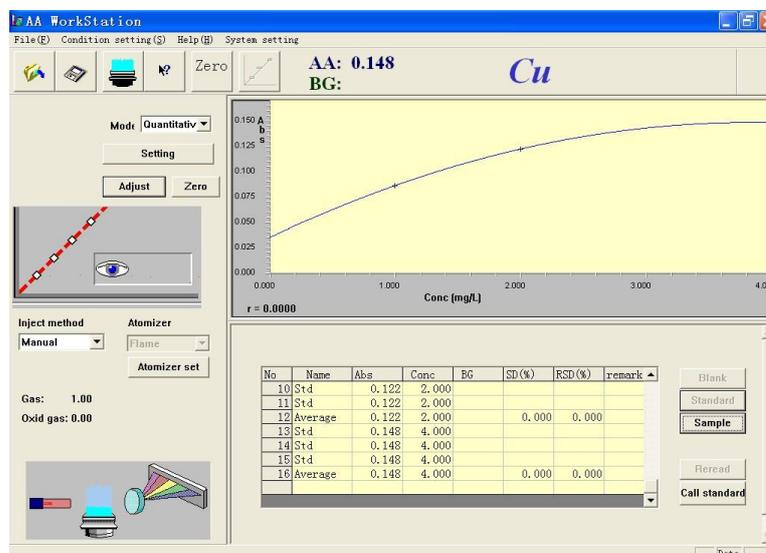

Figure 5-34
- After the standard sample testing is complete, the screen is shown as that in Figure 5-34.